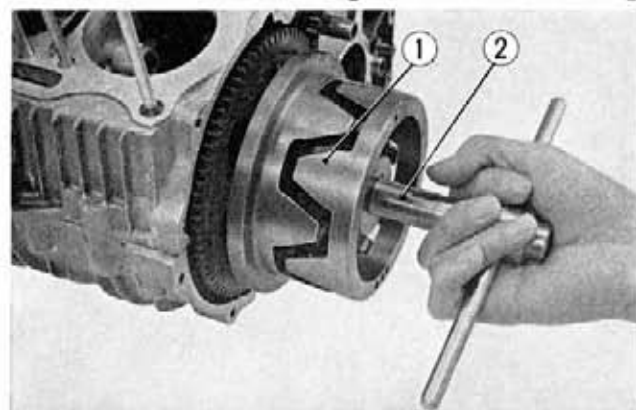

Fig. 3-68 ① A.C. generator rotor
3. Unscrew the AC generator mounting bolt and remove the AC generator rotor using the rotor puller (Tool No. 07933-3000000). (Fig. 3-68)